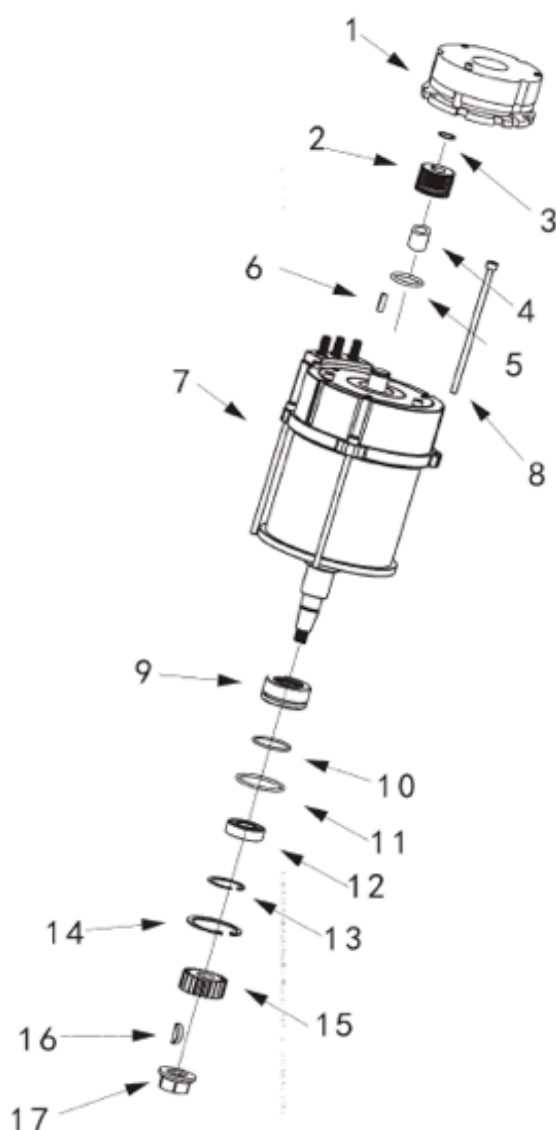

Fig 1
3. Retire las tapas #1 (Fig 1)